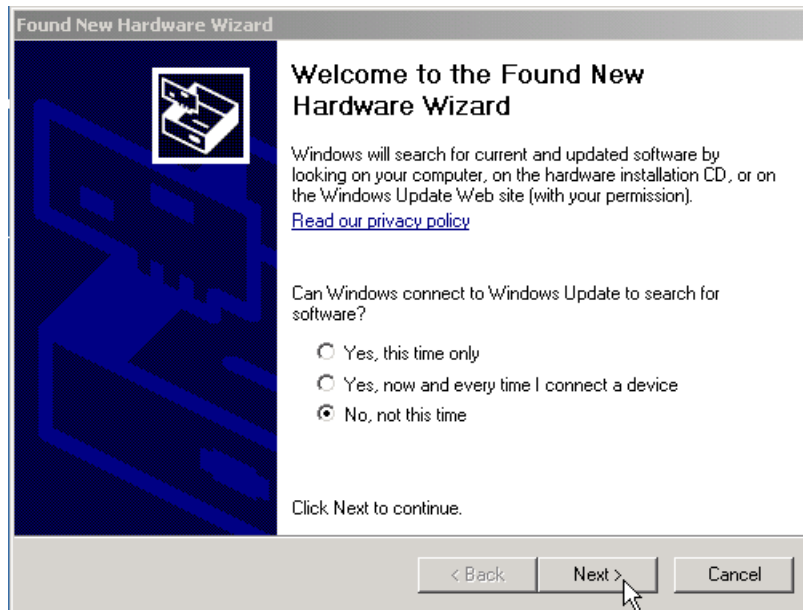

Figure 5 GUI Installation Step 4
4. You may see a screen as shown in Figure 5. Select "No, not this time" and press "Next."